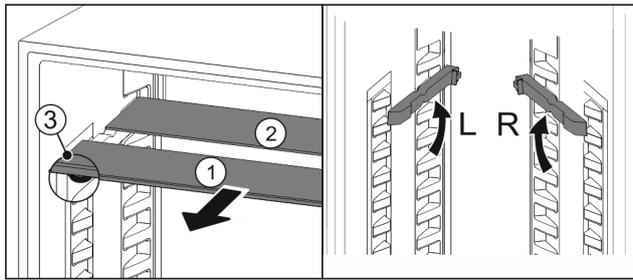

Fig. 73
- ▶ Pull the glass panels out Fig. 73 (1) from the front, one at a time.
- ▷ The glass panel Fig. 73 (1) and trim strip are at the front.
- ▷ The stops Fig. 73 (3) point down.